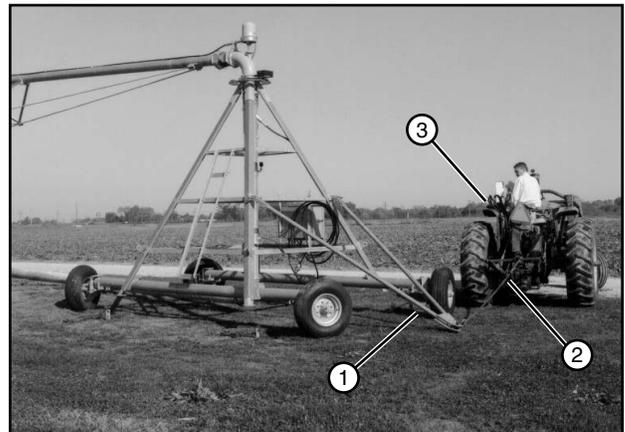

Figure 59-3 1. Tongue
15. Connect tongue to towing unit with a chain. See Figure 59-3.